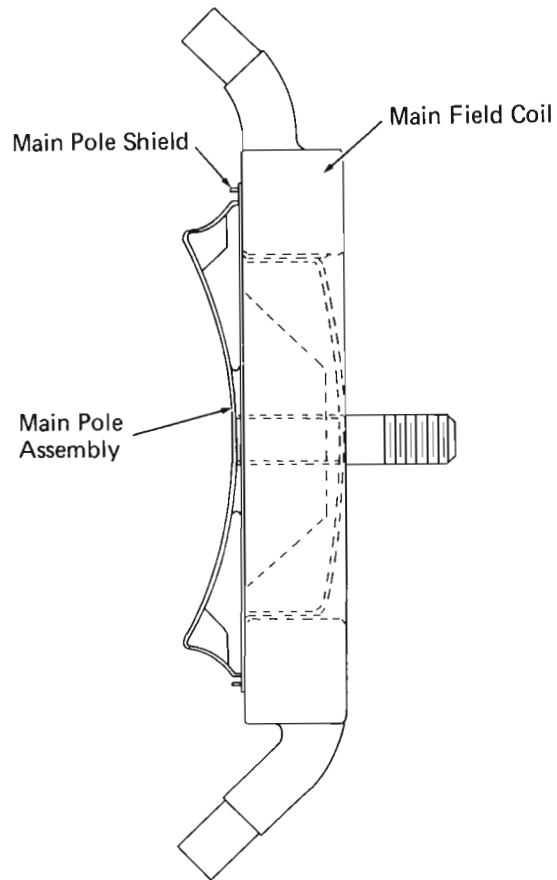

Fig. 16 - Main Coil Position On Pole And Shield
- c. Place coil and washer assembly on a qualified pole piece, being careful not to damage the insulation on the coil. Coil must be assembled on the washer and pole piece so that when the assembly is placed in the frame, the leads will be turned toward center of the bore as shown in Fig. 16.